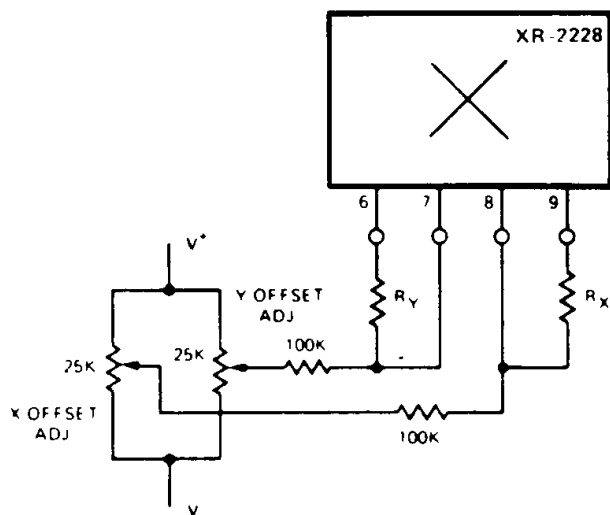

Figure 13. Offset Adjustment
**FEEDTHROUGH:** The amount of peak-to-peak output voltage present with one input grounded and a specified peak-to-peak input applied to the other input. Feed-through is a function of multiplier offsets and can be minimized by offset adjustment (see Figure 13).
where  $\sigma_x$  and  $\sigma_y$  are the offset voltages associated with the respective inputs,  $\sigma_0$  is the offset voltage of the output.  $V_z$  is the multiplier output,  $V_x$  and  $V_y$  are the multiplier inputs. As shown in Figures 13 and 14, each of these offset voltages can be nulled to zero by external adjustments.
**X AND Y OFFSET ADJUST (Pins 7 and 8):** Two of the gain-control terminals, pins 7 and 8, are also used for adjusting X and Y offsets. Figure 13 shows the typical adjustment circuitry which can be connected to these pins to null-out input offsets.